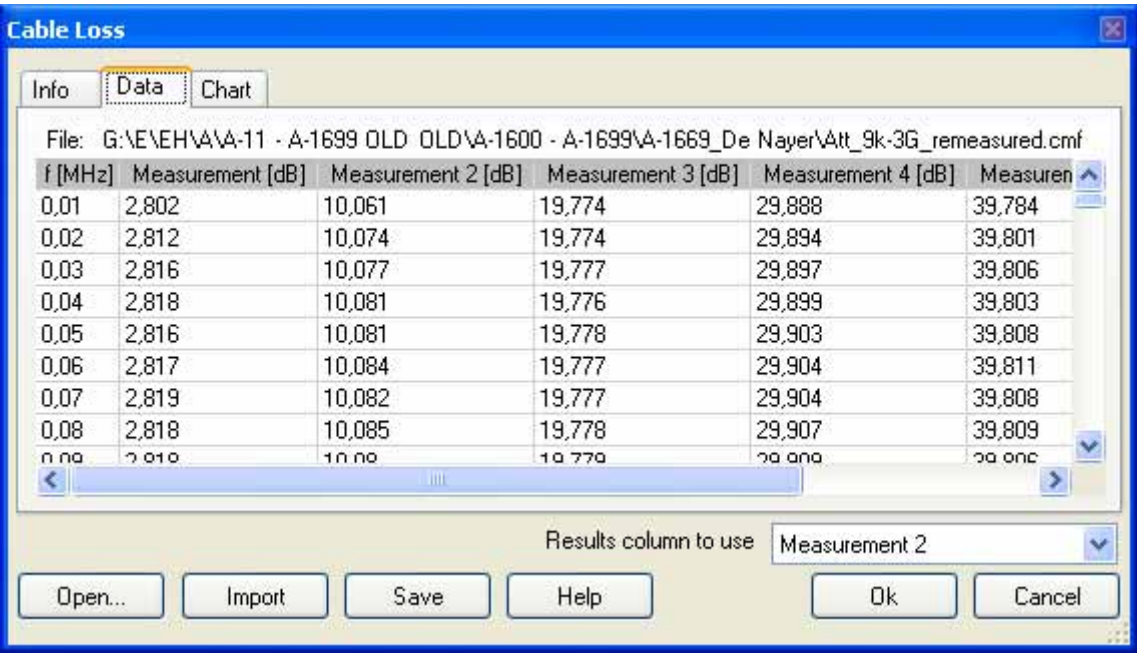

Figure 24: Factor file dialog – Data tab
2. Data page – shows factor data (see **Figure 24**)